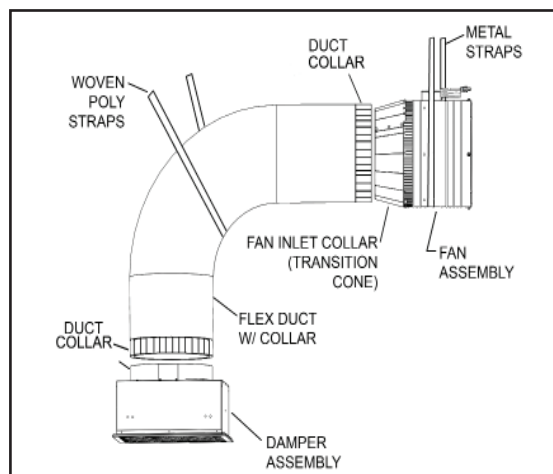

FIGURE 3B: FLEX DUCT TO TRANSITION CONE TO FAN ASSEMBLY CONNECTION (MODELS: S2 and S5)
3. Fan Inlet Collar (Transition Cone) Installation for Models S2 and S5 (Refer to Figure 3B): Connect the transition cone to inlet side of fan assembly using 4 self-driving/self-tapping sheet metal screws provided in the hardware kit. Seal joint with approved duct tape, metal tape, mastic or other approved means.
4. Adjust the flexible duct collar on the upstream end (fan side) of the duct to be as loose as possible which may require the removal of the slide rivet on the flex duct collar section for maximum opening (looseness). Install four (4) self-driving/self-tapping screws provided to secure the flex duct to fan assembly or transition cone connected to the fan assembly. (Refer to Figure 3B) Squeeze and position the other end of flex duct collar section over the oval-shaped collar on the damper box and secure in place using three (3) self-drilling/self-tapping screws provided. Note: that twisting the duct during assembly will cause the fan to try to roll out of position. Seal joint with approved duct tape, metal tape, mastic or other approved means.